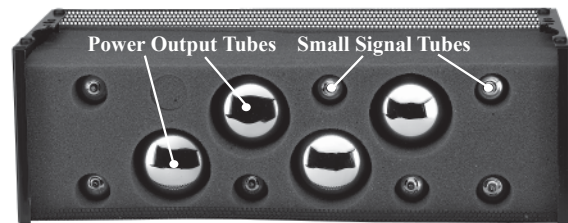

Figure 3
4. Remove the first layer of foam to expose the Tubes. Refer to figure 3.